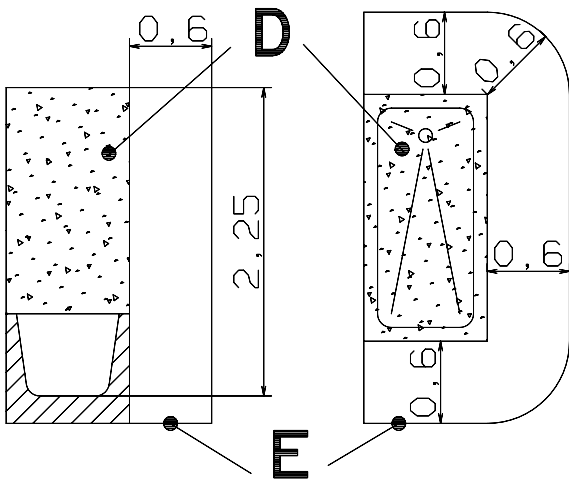

Fig. 1
- Fig.1 D- volume enveloppe
- Fig.1 D- shell volume
- Fig.1 A- volume do invólucro
- Afb.1 D- omhullende ruimte